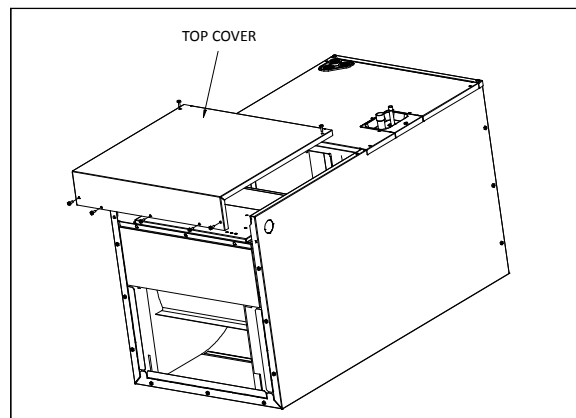

FIGURE 8:Remove The Top Cover
- 1.Tear down the seven bolts in the top cover, see in Figure 8.